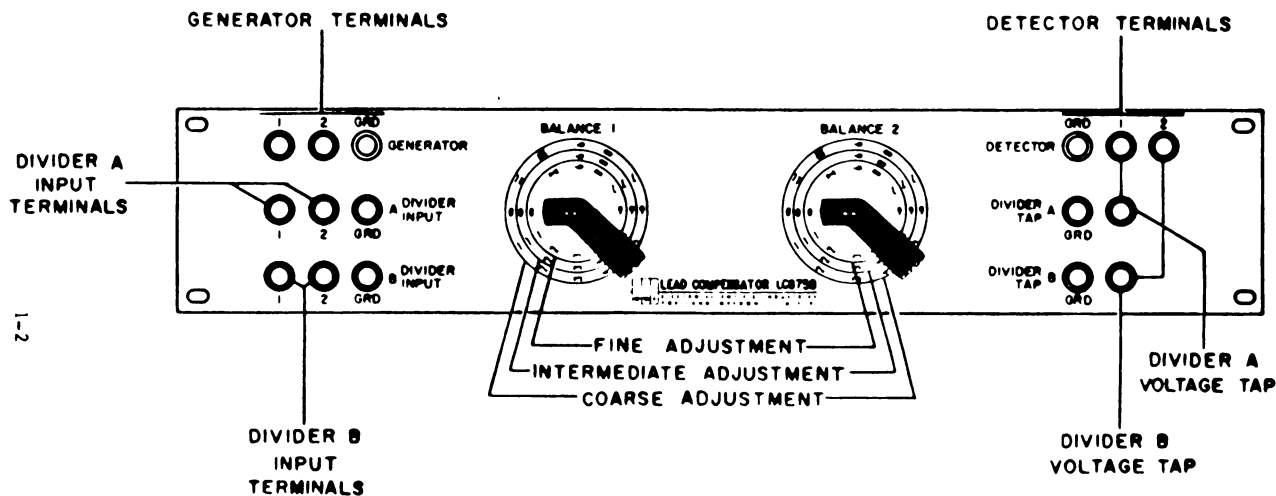

Figure 1-18. Lead compensator panel controls.
**Lead Compensator.** The electrical standards console is designed to calibrate dividers using a lead compensator such as the LC-875B. The front panel controls for this compensator are shown in figure 1-18.